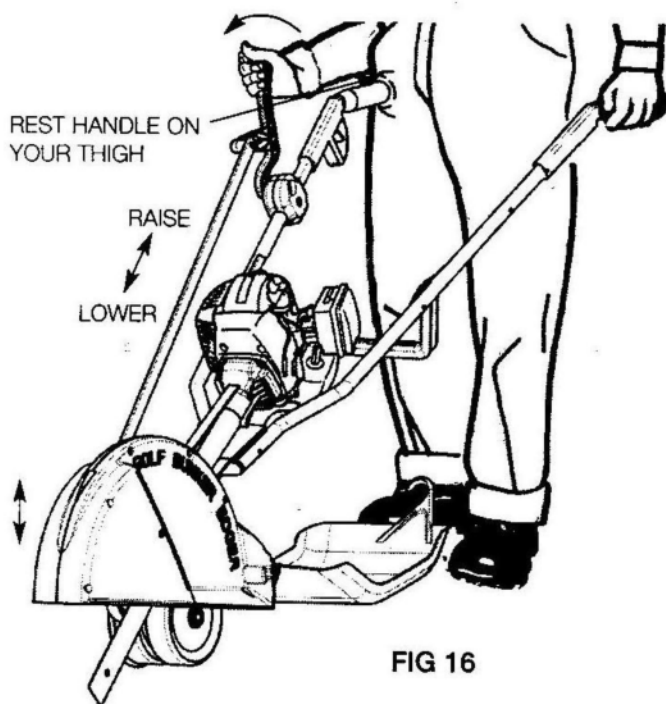

FIG 16
2. To operate the height adjustment, move spring loaded height adjustment arm located on the right hand handle, to the right. Place leg pad on the end of the right hand handle, onto your thigh to help you move the height adjustment arm (see Fig 16). Then move the height adjustment arm forward to lower the height adjustment to the required height. This will lower the depth of the blade in relation to the ground. By pulling the height adjustment arm back will raise the height adjustment. This will raise the blade in relation to the ground. By moving the height
adjustment arm to the left, the height adjustment pin will engage in the required position (see Fig 16).